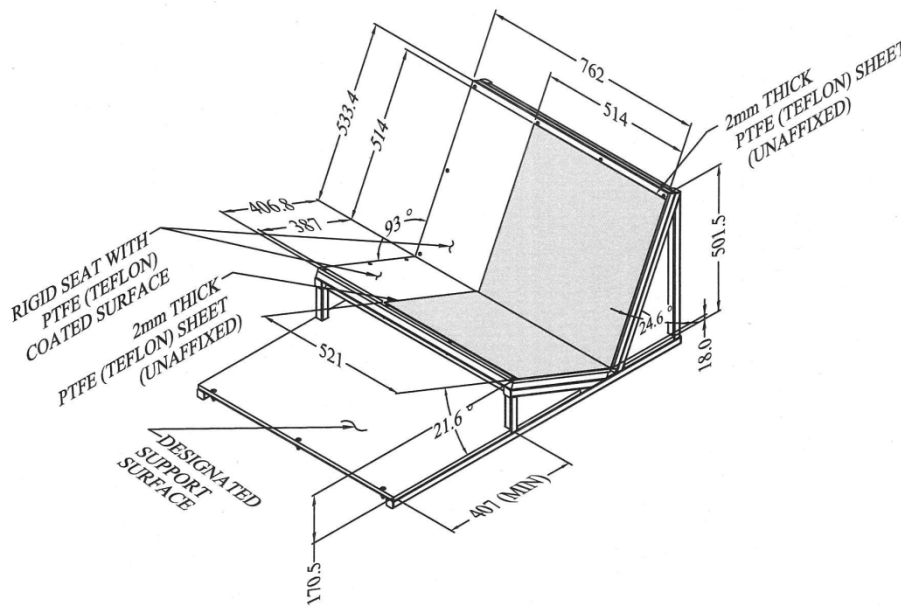

Figure 82. Qualification bench seat specifications for Q3s qualification tests
- Place the qualification bench²³ (Figure 82) in the probe's impact area so that the dummy can be impacted on the arm.